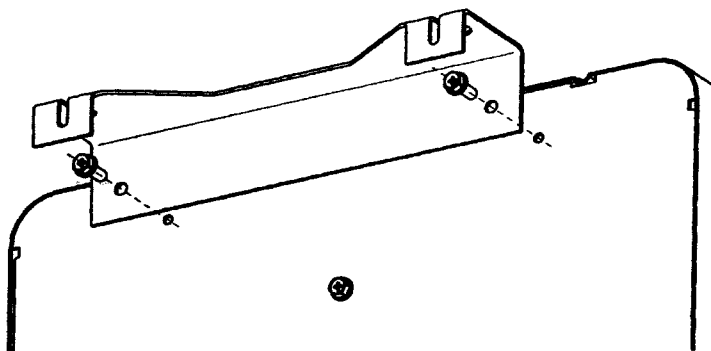

Figure 2 – Transmig 220/250 Cylinder Bracket Assembly
- a) Install the cylinder bracket in the position as shown in Figure 2 using the M5 fasteners